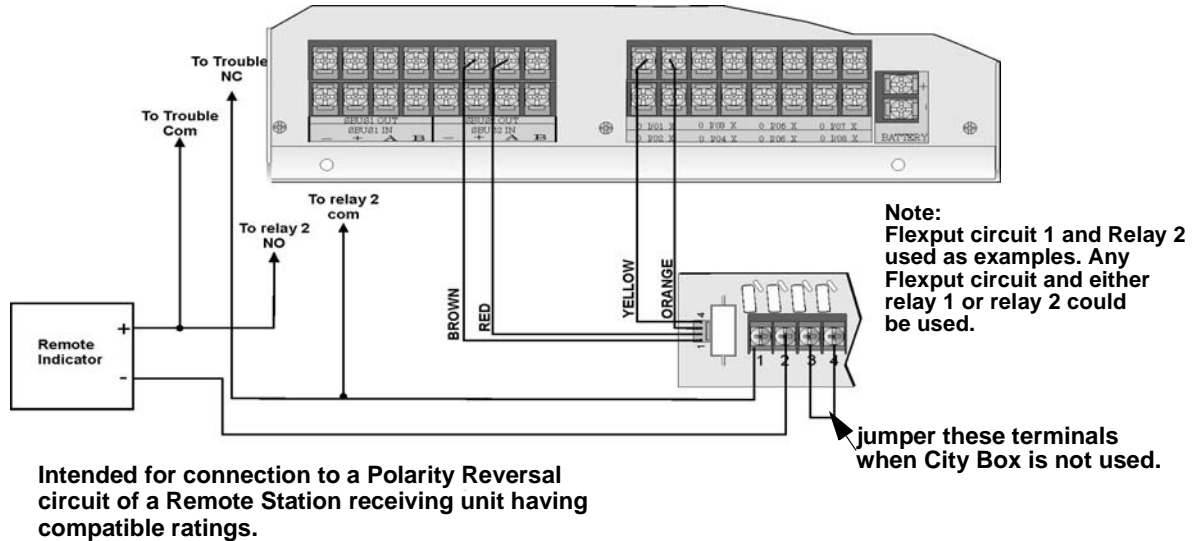

Figure 4-59 Polarity Reversal Connection Using the 5220 Module
2. Wire the 5220 to the control panel using the four-wire pigtail provided as shown in Figure 4-59. This diagram also shows how to connect the 5220 to the remote indicator. Do not install an EOL resistor in the terminals of the Flexput circuit used for this application.